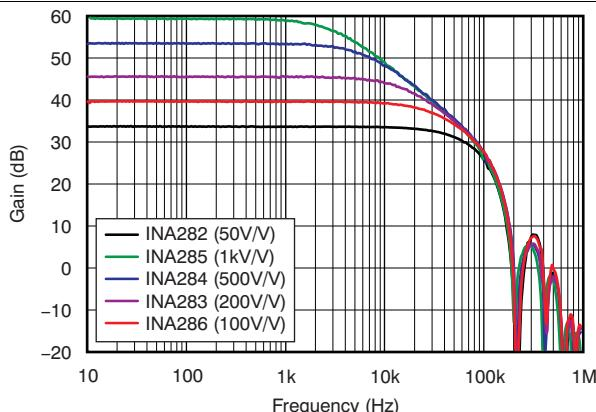
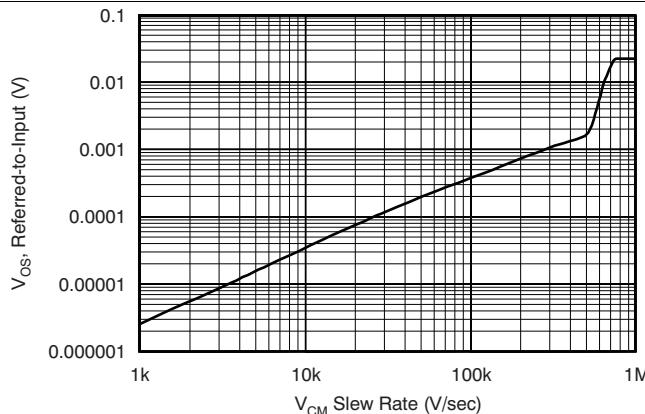
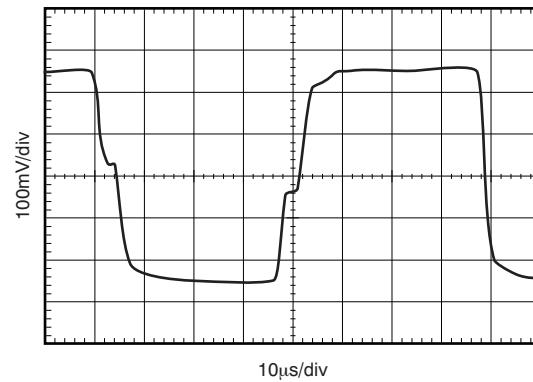

Figure 1. Gain vs Frequency
Figure 4. INA282 Common-Mode Slew Rate Induced Offset
Figure 28. 500-mV Step Response
(7) See typical characteristic graph Figure 1 and the Effective Bandwidth section.
The extremely high dc CMRR of the INA28x family results from the switched-capacitor input structure. Because of this architecture, the INA28x exhibits discrete time-system behaviors, as illustrated in the *Gain vs Frequency* curve of Figure 1 and the *Step Response* curves of Figure 21 through Figure 28. The response to a step input depends in part on the phase of the internal INA28x clock when the input step occurs. It is possible to overload the input amplifier with a rapid change in input common-mode voltage (see Figure 4). Errors as a result of common-mode voltage steps or overload situations typically disappear within 15 μ s after the disturbance is removed.